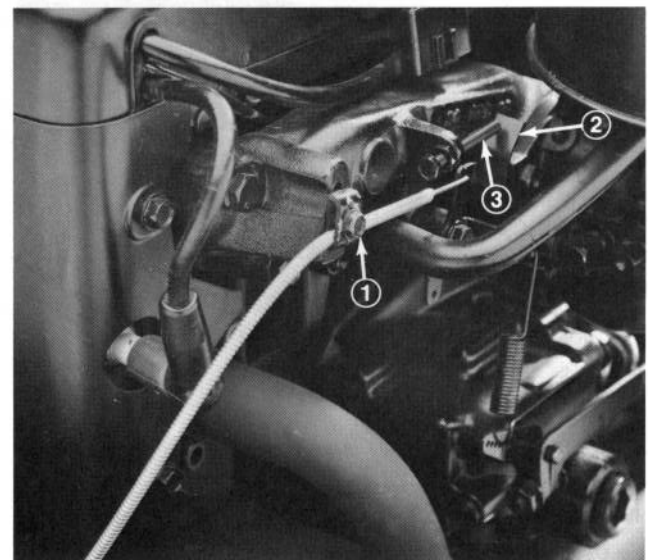

Figure 22
1. Loosen cable clamp screw securing cable to engine (Fig. 22).
3. Pull firmly on throttle cable till governor arm contacts stop (Fig. 22).